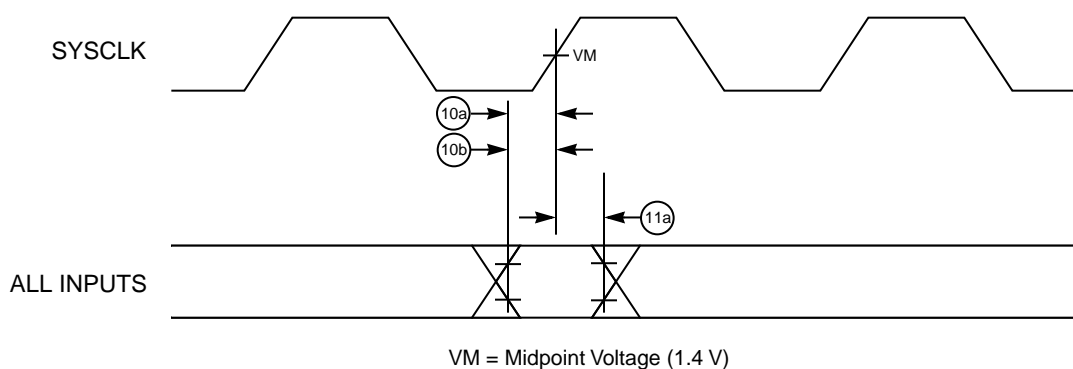
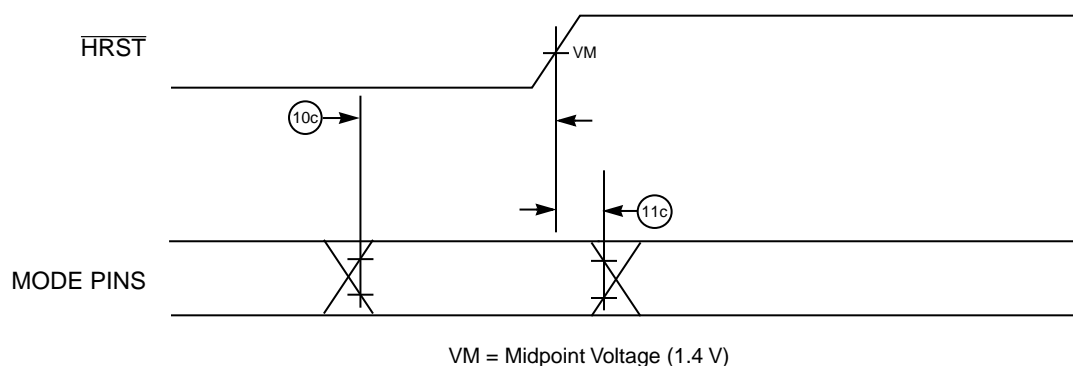

Figure 2. Input Timing Diagram
Figure 3. Mode Select Input Timing Diagram
Table 6 provides the input AC timing specifications for the MPC105 as defined in Figure 2 and Figure 3. These specifications are for operation between 16.67 and 33.33 MHz bus clock (SYSCLK) frequencies.
4. The setup and hold time is with respect to the rising edge of \overline{HRST} ; see Figure 3. The following signals encompass the mode (or configuration) pins for MPC105—RCS0, BCTL0, DL0, XATS, and FNR.